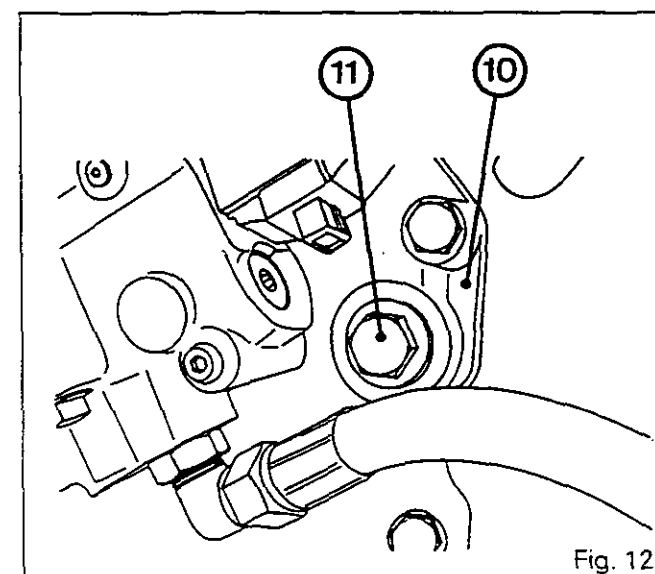

Fig. 12
- Note: Access to the adjusting nut (4) is via the aperture of the plug (11) on the left cover (10) (Fig. 12).**